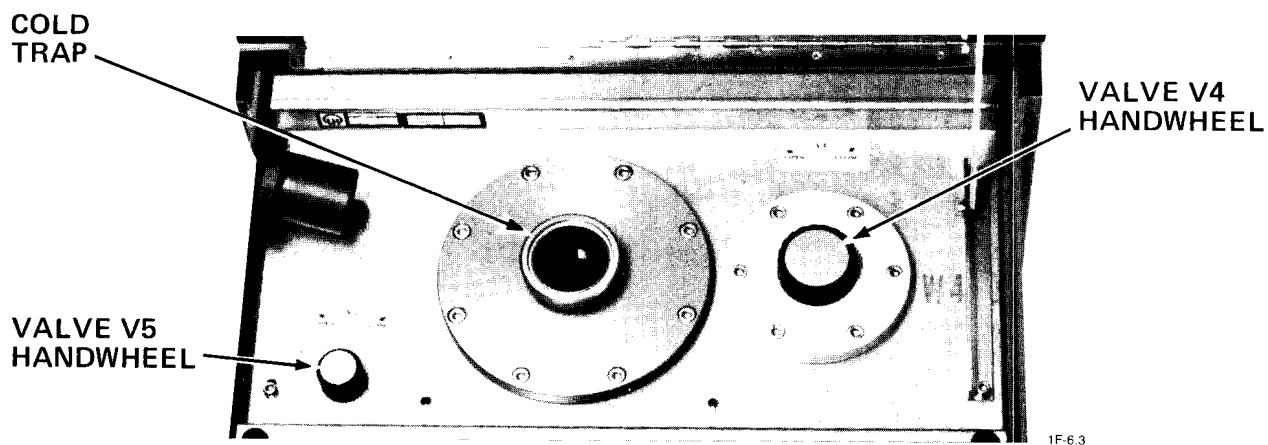

Figure 4-1A - Valve V4 and V5 Handwheels on the Top of the Leak Detector
2. Ensure that handwheel valves V5 and V4 are closed (see Figure 4-1A).
- a. Open handwheel Valve V4 (see Figure 4-1A).
- b. Open handwheel Valve V5 (see Figure 4-1A).
Observe PII until it reaches approximately  $10^{-2}$  and then close valves V4 and V5 (see Figure 4-1A).
Carefully pour a small portion of the  $\text{LN}_2$  into the filler port on the top of the cold trap (see Figure 4-1A), wait for a minute or two, and then pour the remaining  $\text{LN}_2$  into the cold trap unit it is full. Replace the stopper into the filler port.